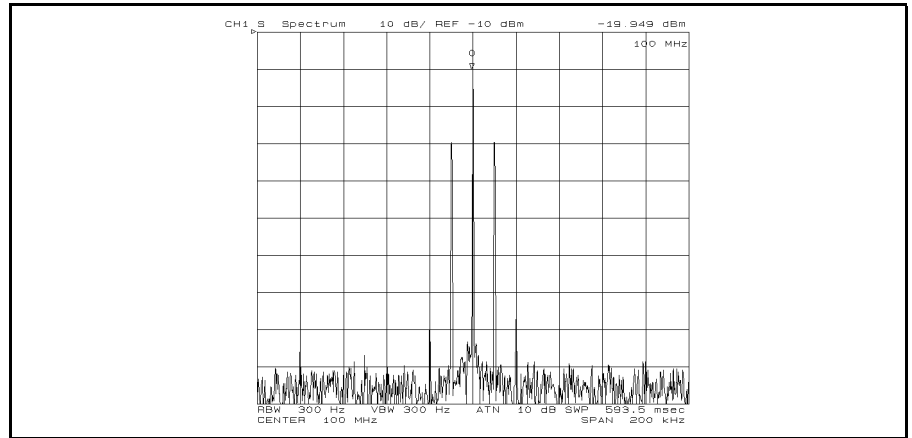

Figure 4-12. Carrier Amplitude and Frequency of AM Signal
2. Press **MAX** to search for the carrier signal. The carrier amplitude and frequency are displayed in the upper right corner as shown in Figure 4-12.